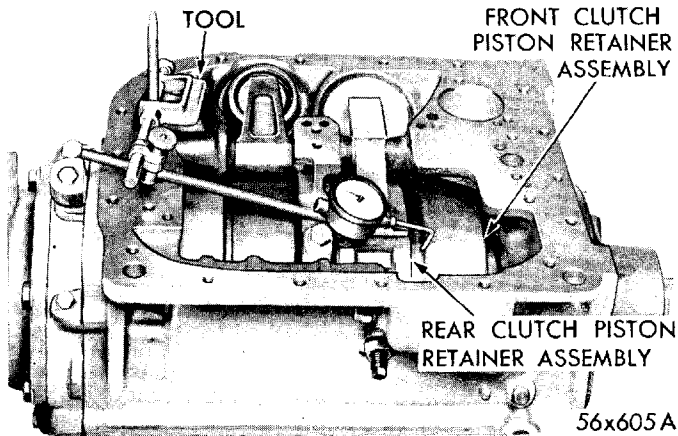

Fig. 34—Checking Front Clutch Piston Retainer Assembly End Clearance
(1) Install dial indicator, Tool C-3339 as shown in Figure 34.
(2) To make this check, pry front clutch forward by carefully inserting screw driver between the front and rear clutch piston retainers.
(3) Remove screw driver, and with dial indicator point contacting edge of front clutch retainer, set dial indicator to zero.